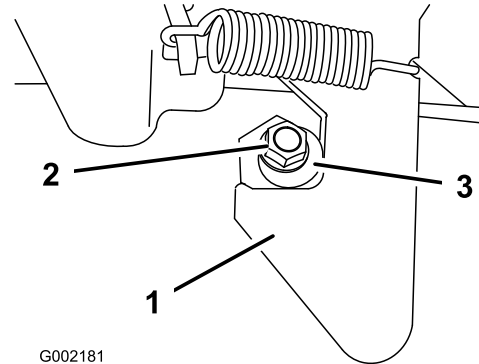

Figure 49
1. Loosen the locknut on the end of the latch post (Figure 49).
2. Rotate the latch post clockwise until it is snug against the hook portion of the latch (Figure 49).